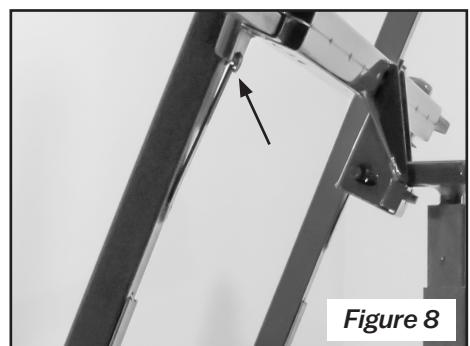

Figure 8
- Press each crossarm forward into the socket until the spring tab on the bottom of the crossarm snaps into place (Figure 8).